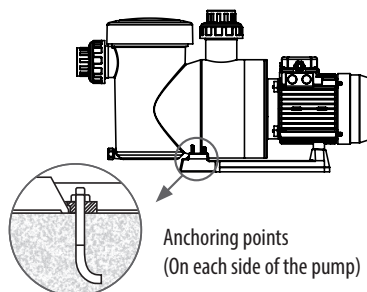

FIGURE 2
- Fasten the pump to the ground using the anchoring stud so that it is suitably fitted in place. (FIGURE 2).